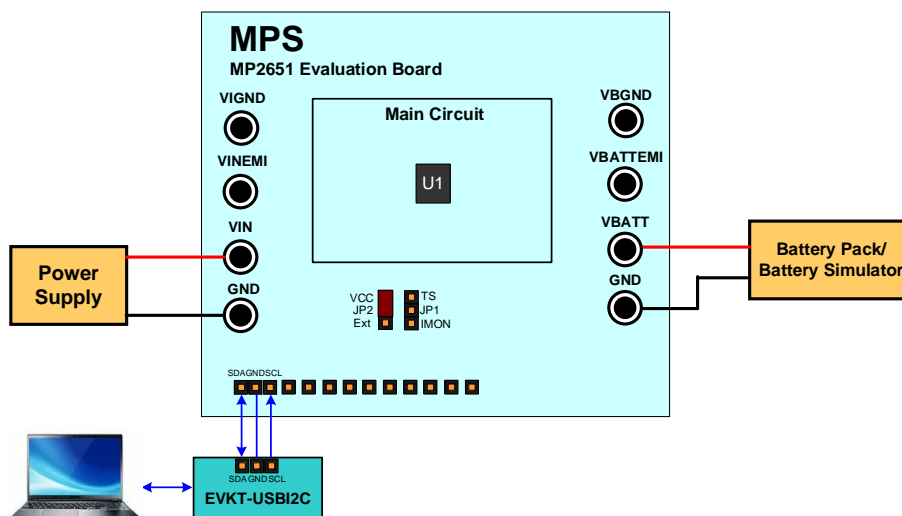

Figure 6: EVB to MPS I²C Communication Interface Wire Connection
2. Connect SCL, SDA, and GND (see Figure 6). Refer to the MP2651 datasheet for further clarification.